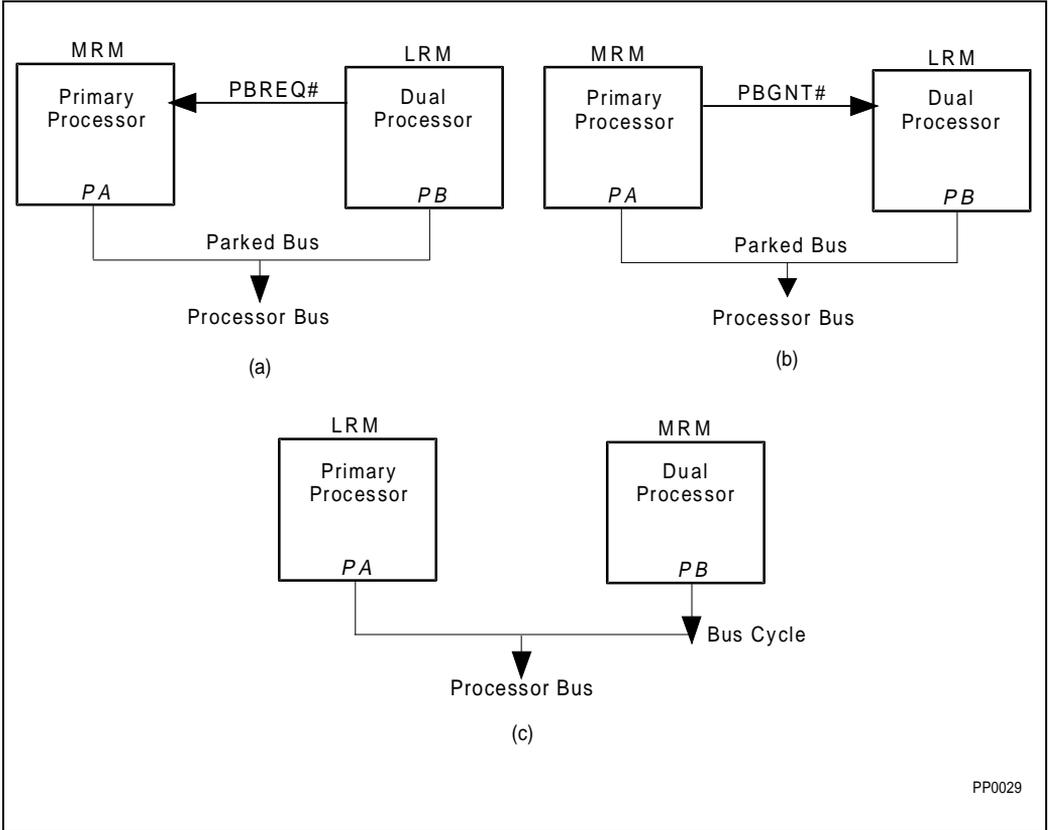

Figure 20-4. Arbitration from LRM to MRM When Bus is Parked
Diagram (a) of Figure 20-4 shows PB requesting the bus from the MRM (PA). Diagram (b) of Figure 20-4 shows PA granting control of the bus to PB. Diagram (c) of Figure 20-4 shows PB, now the MRM, issuing a cycle.